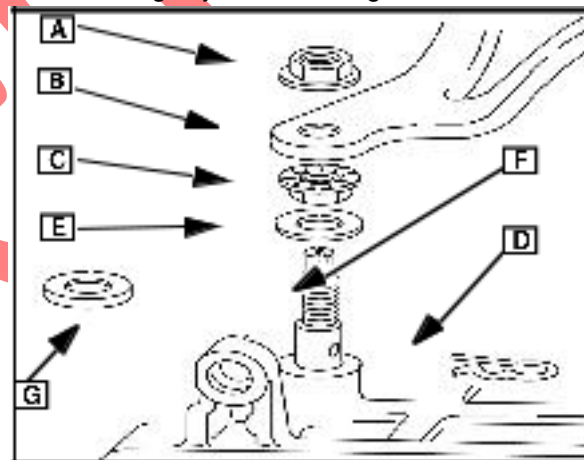

Fig. 15
5. Remove nut ([A] Fig. 15) (left hand threads) and lift off governor lever (B).
6. Remove nut (C) (left hand threads), spring clip (D) and thrust washer (E) from governor crank (F).
7. Remove felt seal (G) if equipped. Push governor crank ([F] Fig. 15) down through cylinder housing.